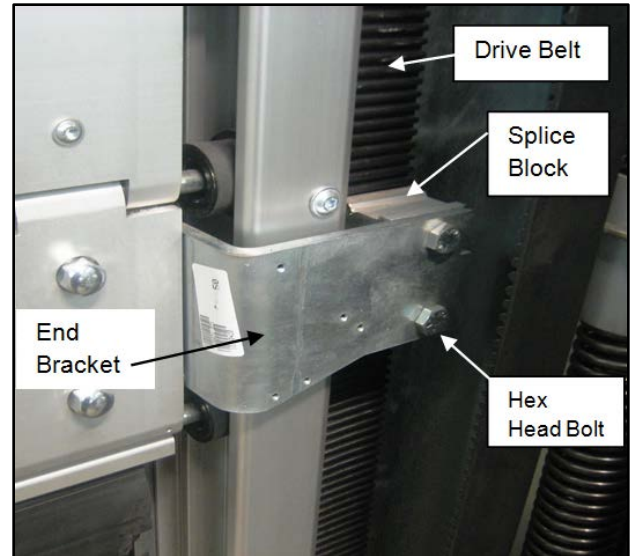

Figure 46
6. Loosen the hex head bolts on the end bracket to release the drive belt from the splice block. (See Figure 46.)